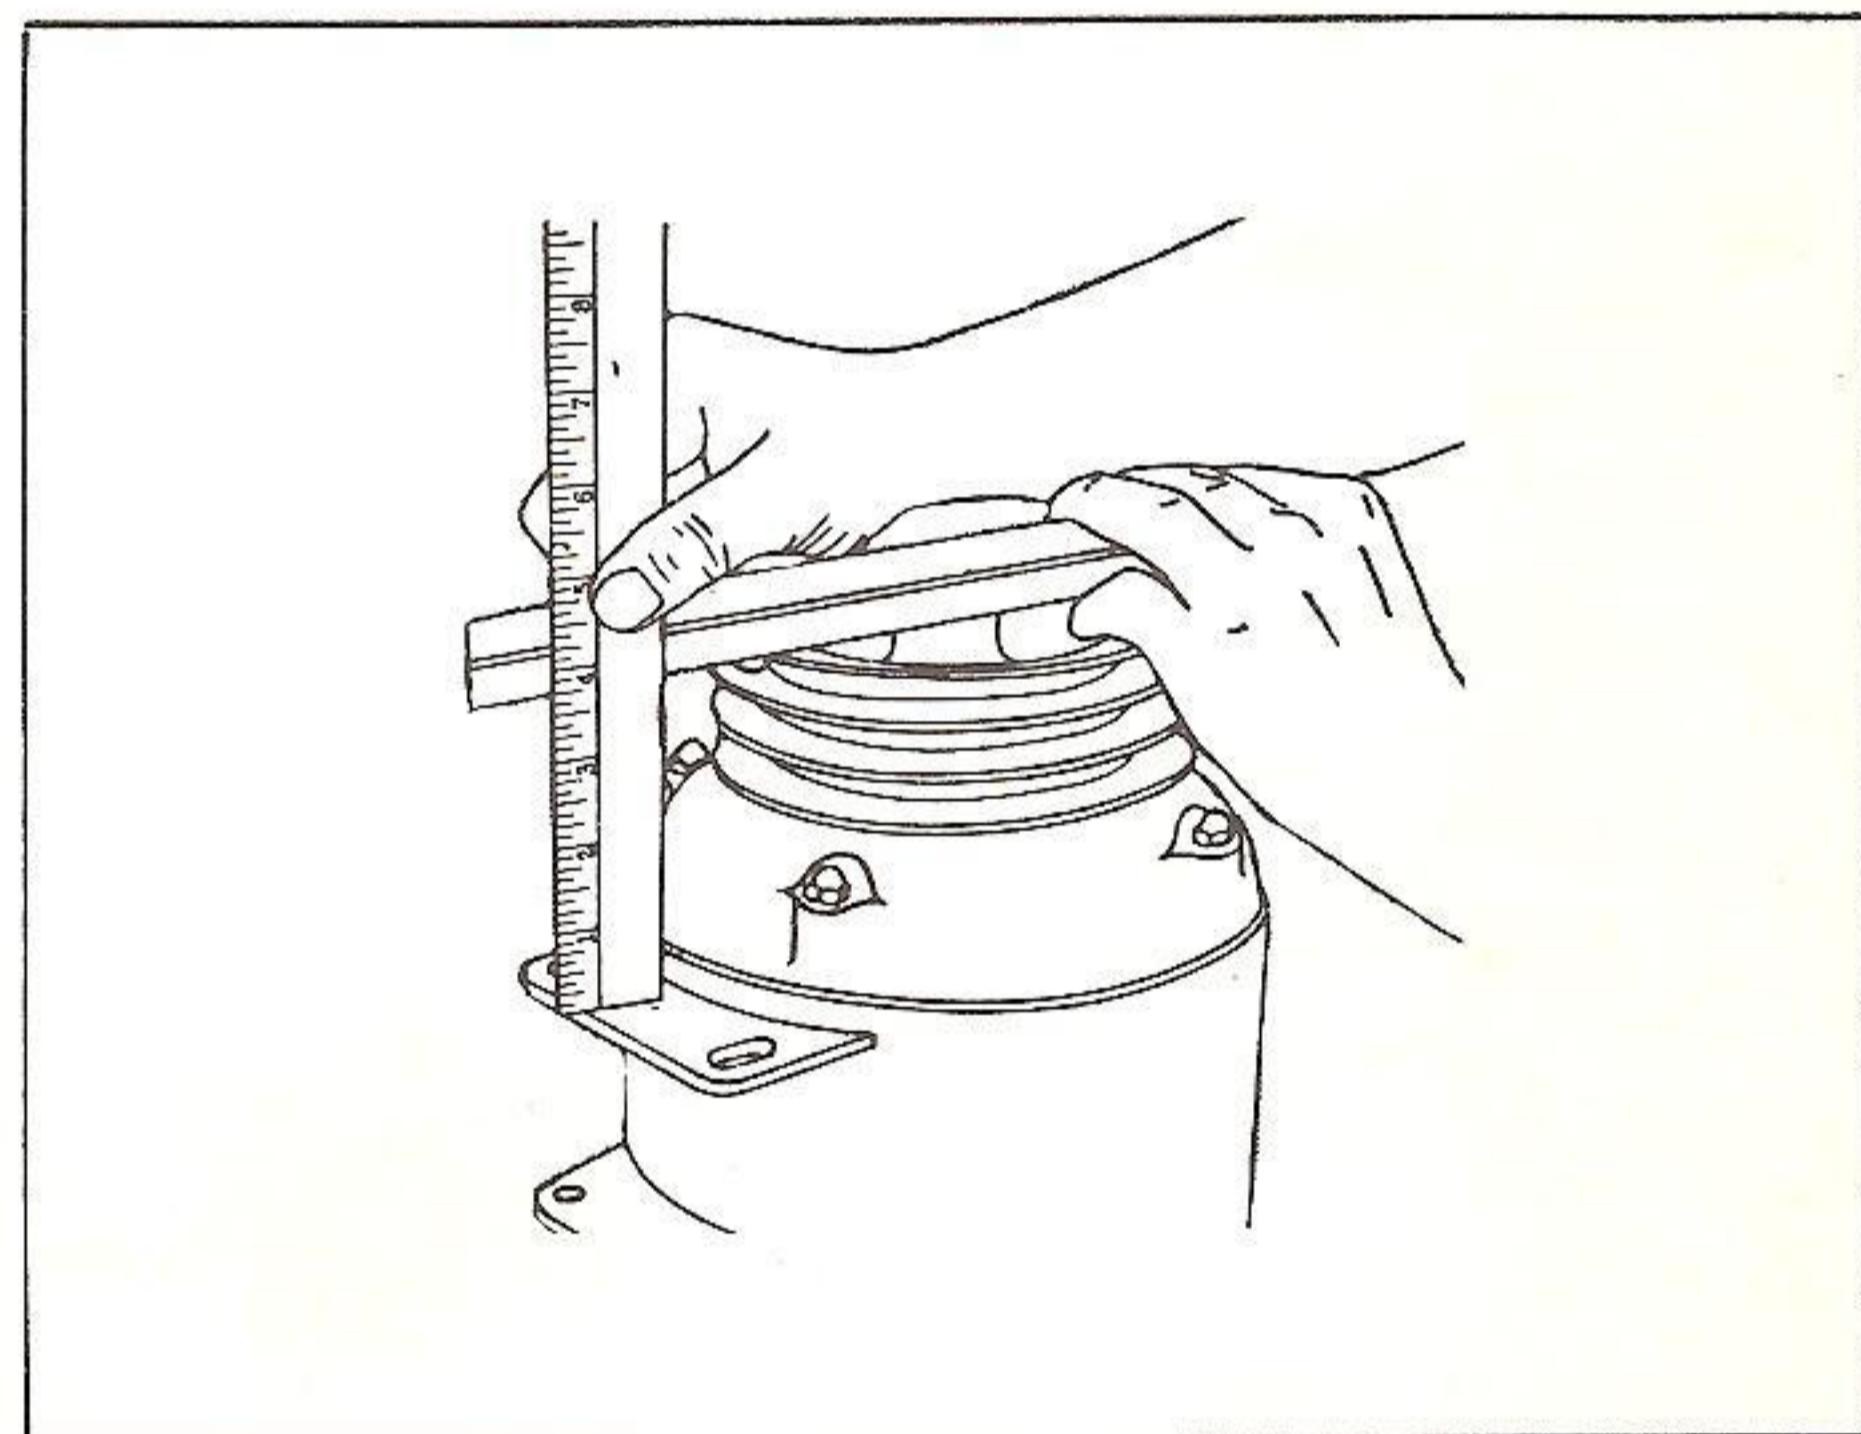

Fig. 2
2. The proper position of the motor pulley on the shaft is 3 3/4" from the outer face of the pulley to the top of the ear on the motor frame, as shown in Fig. 2.